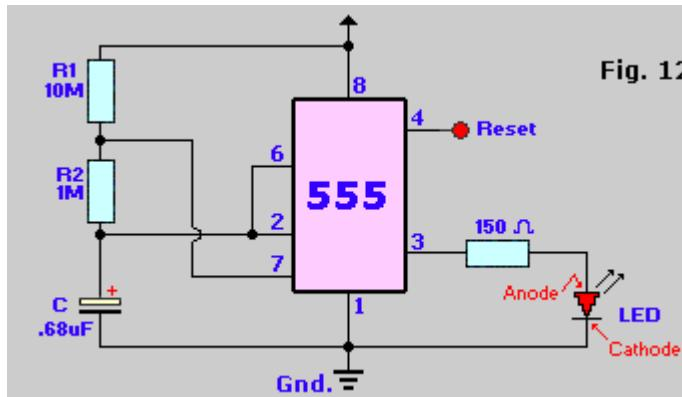
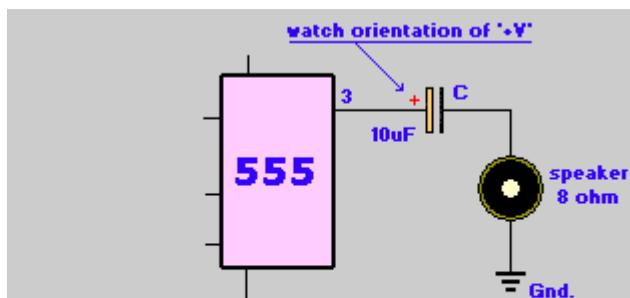

Fig. 12
Fig. 13
12. Next you will experiment with astable circuits. First, rewire the circuit it appears as shown in Fig. 12.
17. Rewire the circuit making R1 and R2 10,000 ohms and C equal to 0.1uF. Use the same circuit in Fig. 12. But, replace the LED and its resistor with a speaker and capacitor as shown in Fig. 13.
Fig. 12, Recording Beep: This circuit is used to keep recording of telephone conversations legal. As you may know, doing otherwise without consent of the other party is illegal. The output of IC1 is fed to the 2nd 555's pin 3 and made audible via C2 and the speaker. Any 8-ohm speaker will do.
Fig. 13, Coin Toss: Electronic 'Heads-or-tails' coin toss circuit. Basically a **Yes** or **No** decision maker when you can't make up your mind yourself. The 555 is wired as a Astable Oscillator, driving in turn, via pin 3, the 7473 flip-flop. When you press S1 it randomly selects the 'Heads' or 'Tails' led. The leds flashrate is about 2Khz (kilo-Hertz), which is much faster than your eyes can follow, so initially it appears that both leds are 'ON'. As soon as the switch is released only one led will be lit.